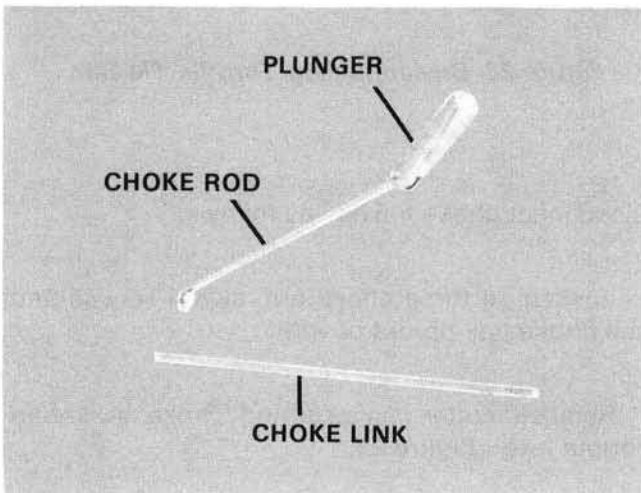

Figure 26. Choke Rod, Link.
1. Inspect linkages to carburetor for wear, bent areas. Figures 26, 27.